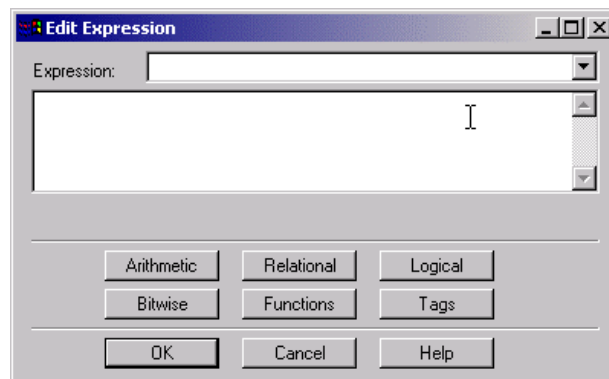

Figure 5.44
8. Select **Tags Menu**→**Expression Editor** (shown in **Figure 5.44**) in order to create the expression of the tag this process point will connect to.